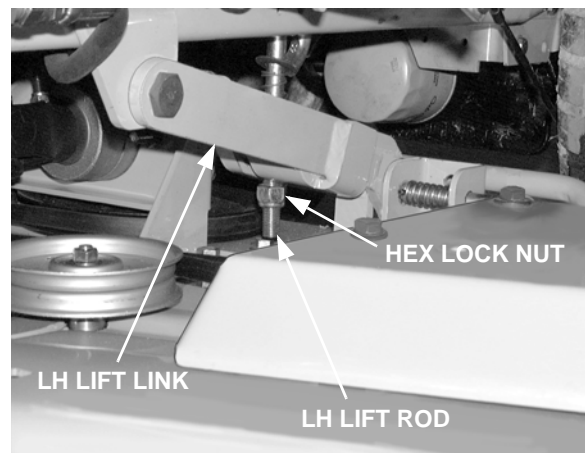

Figure 20
5. Side to side leveling is attained by adjusting the hex lock nut on the bottom of the LH lift rod, located below the LH lift link (See Figure 20).